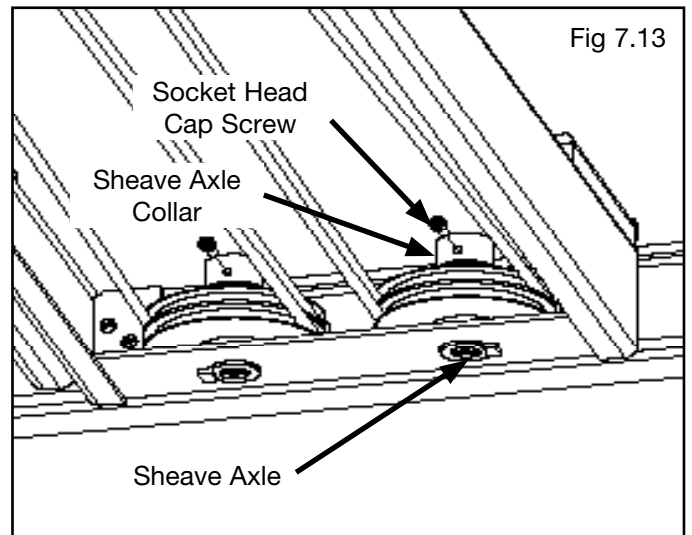

Fig 7.13
5. Install the Socket Head Cap Screws through the Sheave Axle Collars. (See Fig. 7.13)